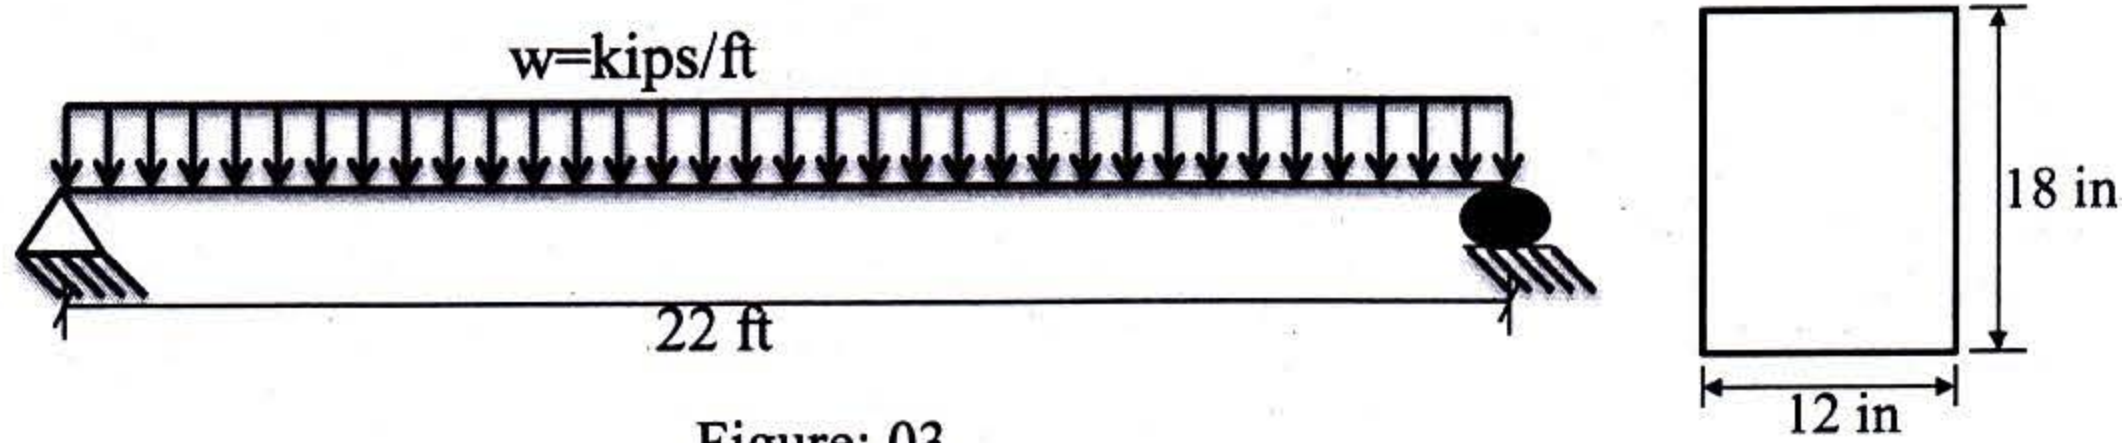

Figure: 03
3. (a) Explain (with neat sketch) the behavior of reinforced concrete beam under different loading conditions. (04)
(b) Architectural considerations specify the section of a beam as shown in Figure: 03. (16)